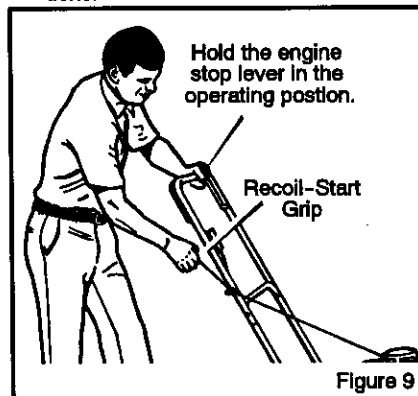

Figure 9
6. Stand behind the mower (Figure 9). Use one hand to hold the engine stop lever in the operating position as shown. Use the other hand to hold the recoil-start grip.